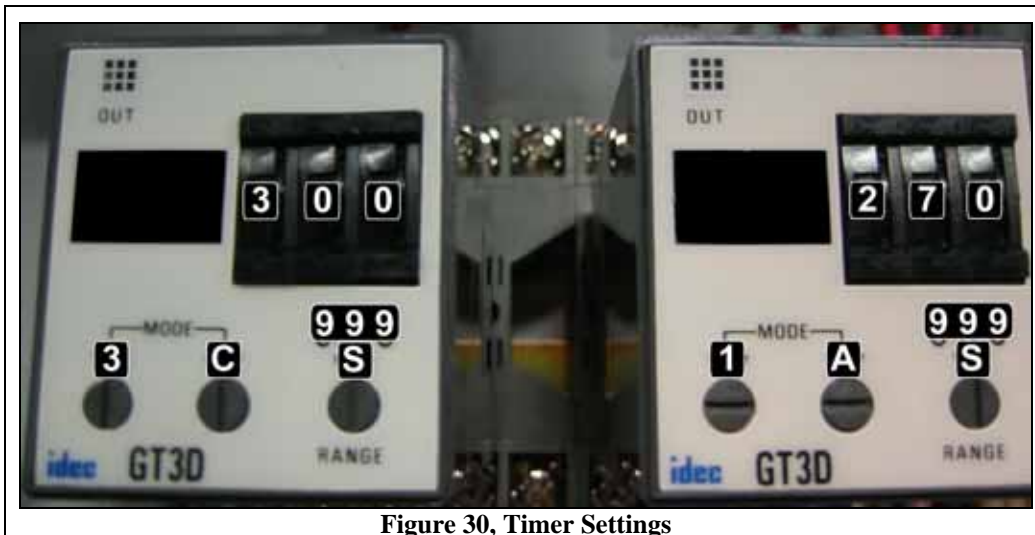

Figure 30, Timer Settings
- Step 6) The timers TR1 and TR2 must be configured to these settings only. Any other values will prevent the equipment from running. If different from Figure 30 use a small screwdriver to adjust the values.